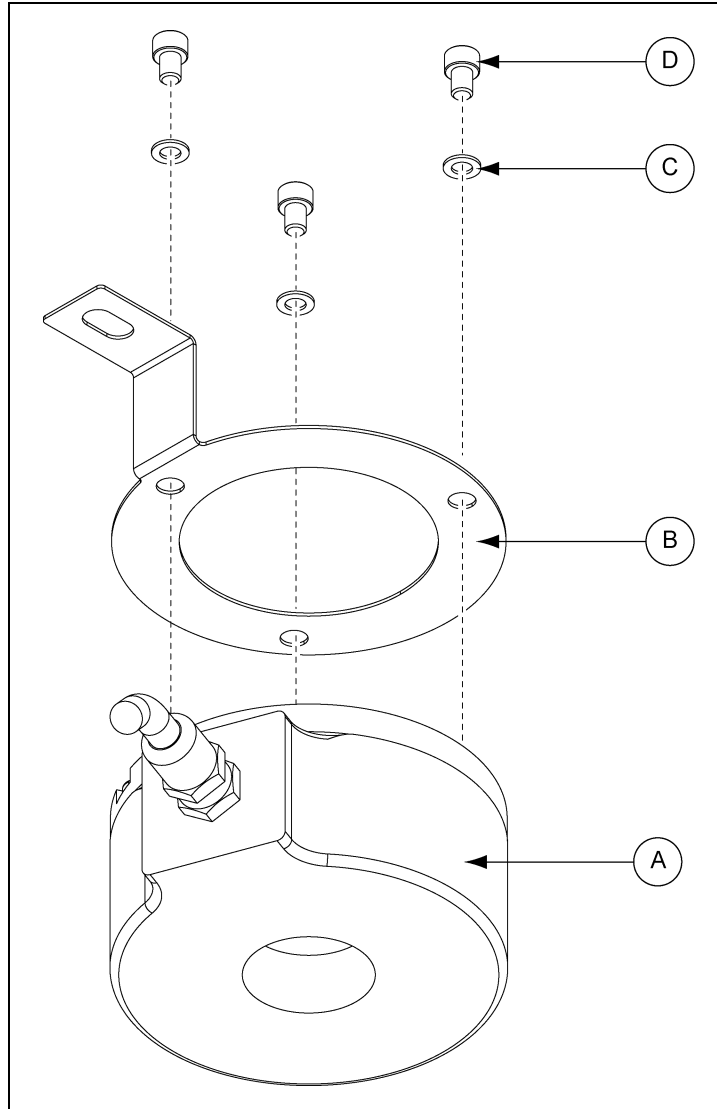

Figure 6G Encoder to Mounting Bracket
Install the encoder (A) to the encoder mounting bracket (B) using the three (3) #10-32 bolts (D) and #10 washers (C) as shown in Figure 6G.